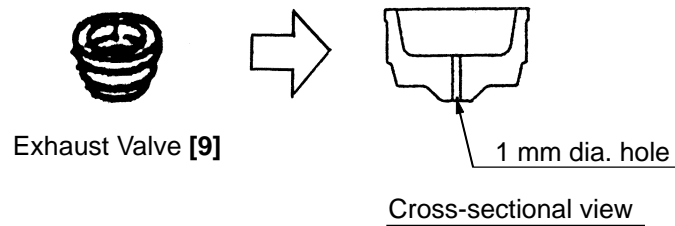

Fig. 12
- Be sure to check that the Exhaust Valve [9] is orange and provided with a 1 mm dia. hole (Fig. 12) before reassembly. Note that mounting a wrong exhaust valve may cause a malfunction.
- Gasket (C) [8] and Gasket (F) [6] should be replaced with new genuine Hitachi parts.